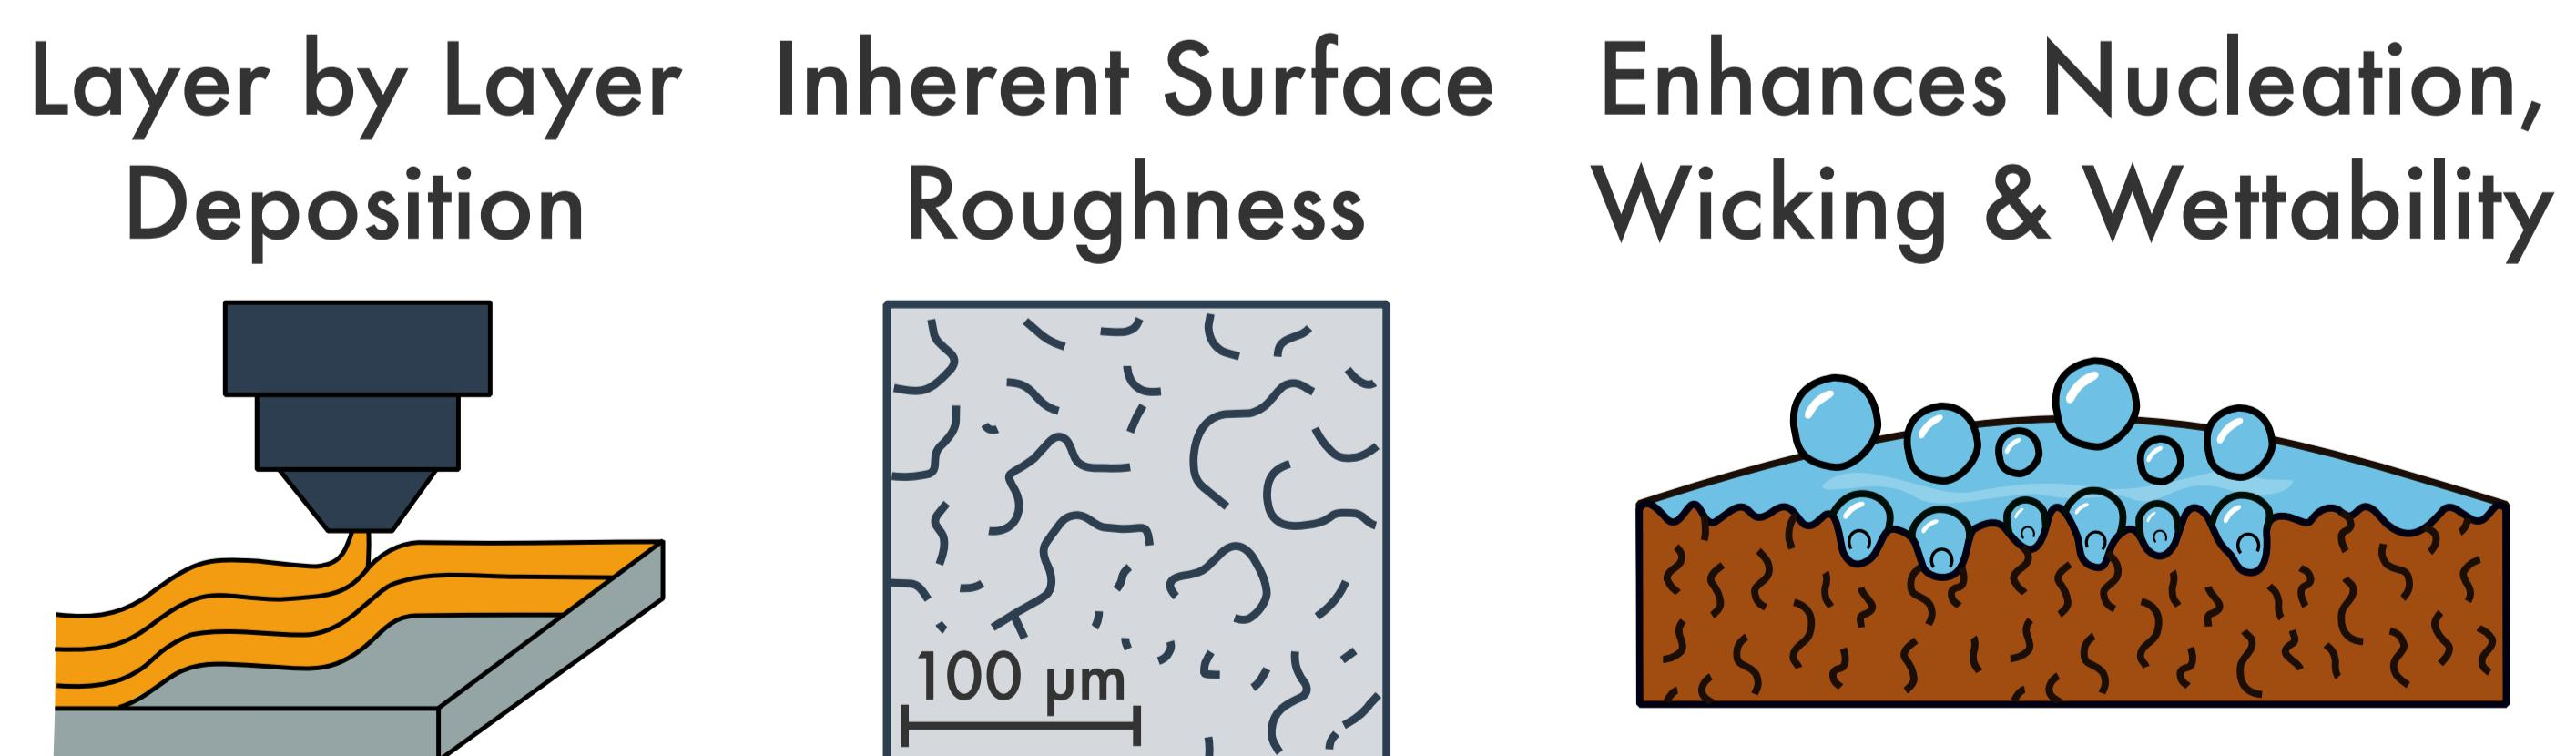

Figure 3. FDM Capabilities for Boiling Applications.
- Fused deposition modeling (FDM) creates 3D-printed surfaces that enhance heat transfer (Fig. 3).